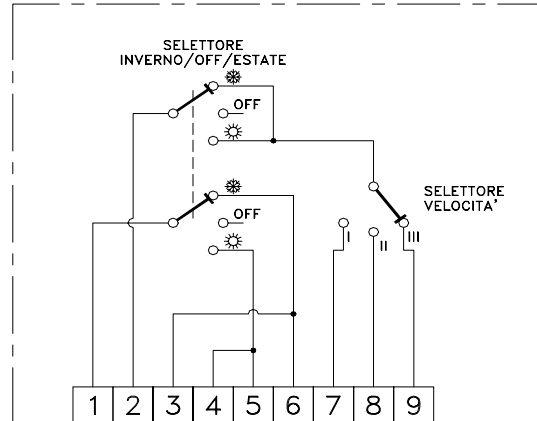

Fig. 2 Schema elettrico interno / Internal diagram
- make electrical wirings on the terminal board (Fig. 2 and 4).